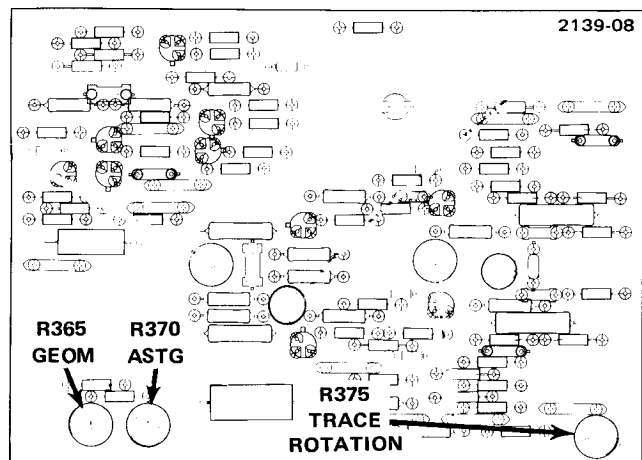

Fig. 5-3. Location of Geom, Astig, and Trace Rotation adjustments (Horizontal circuit board).
- e. ADJUST—Astig R370 and FOCUS control together, to obtain the best defined spot display. See Fig. 5-3 for adjustment location.
- c. ADJUST—ROTATION (Trace) R375 to align the trace with the center horizontal graticule line. See Fig. 5-3 for adjustment location.
f. ADJUST—Geom R365 for minimum bowing or tilt of the trace display at the left and right edges of the graticule. Adjustment may have to be compromised to obtain less than .1 graticule division bowing and tilt everywhere within the graticule area. See Fig. 5-3 for adjustment location.